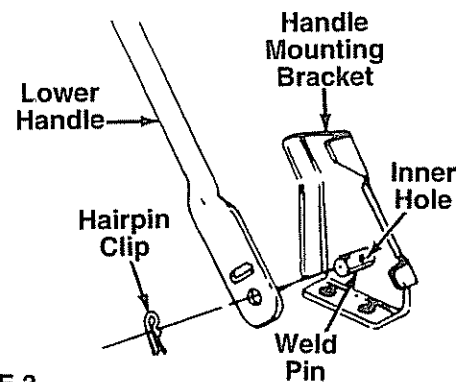

FIGURE 3.
- Remove the hairpin clips from the outer hole in the weld pins on the handle mounting brackets. Place the hairpin clips in the **inner** hole. See figure 3.